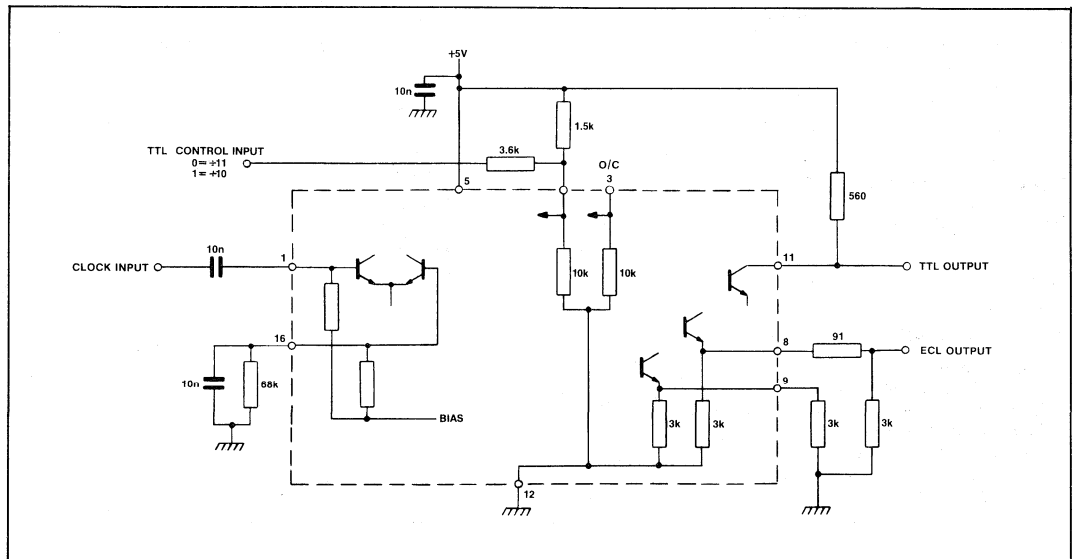

Fig.9 Typical applications circuit showing interfacing
4. The Q4 and Q4 outputs are compatible with ECL II but can be interfaced to ECL 10K as shown in Fig.9.